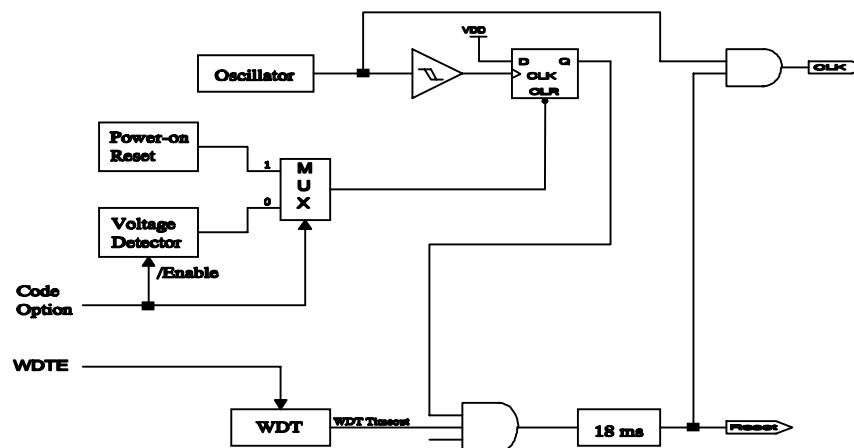

Fig. 14 Block diagram of Reset of controller
- (1) Power on reset, or Voltage detector
- (2) WDT timeout. (If enabled and in GREEN or NORMAL mode)
Note that only Power on reset, or only Voltage detector in Case (1) is enabled in the system by CODE Option bit. If Voltage detector is disabled, Power on reset is selected in Case (1). Refer to Fig. 14.